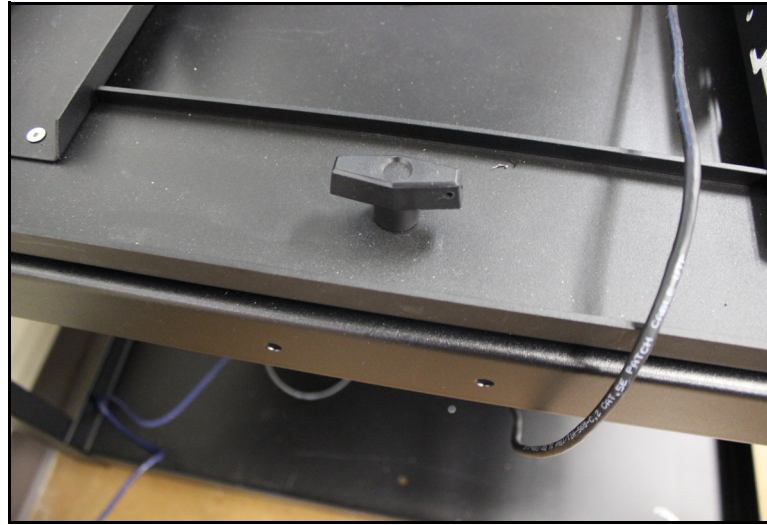

Figure 3
- An optional cart, custom-designed for the CubiScan 325, is available from Quantronix. If you purchased this cart, use the two T-handle pins to secure the CubiScan to the cart. See Figure 3.